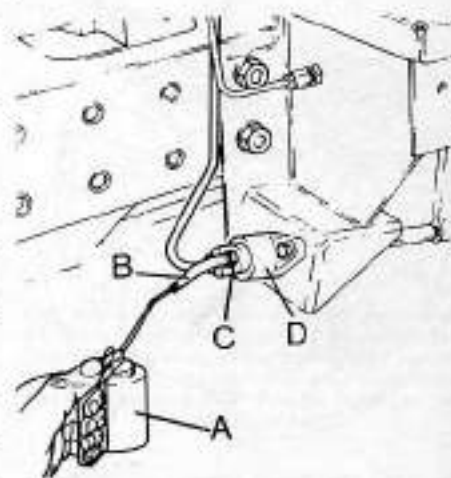

Fig. 136 - Use pressure oil can (A) connected to air screw (C) of slave cylinder (D) by flexible tube (B) to bleed air from clutch hydraulic system.
240. Clean a pressure oil can and keep for this purpose only. Fill pressure oil can (A - Fig. 136) with specified fluid and connect to air screw (C) on slave cylinder using flexible tube (B). Open reservoir and loosen air screw and